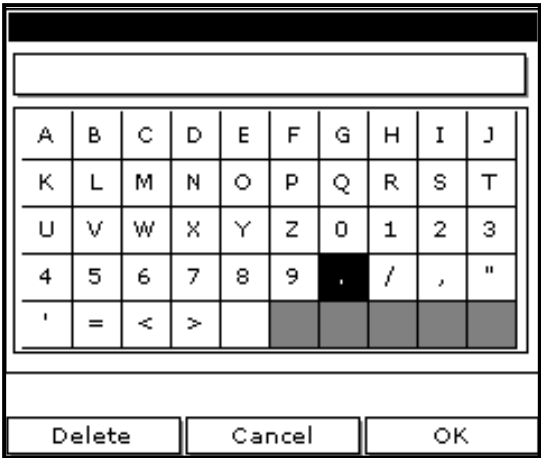

Figure 25: Text Creation Window
- 3. Use the arrow keys to move to the Label box and press **[ENTER]**. A screen similar to *Figure 25* appears.